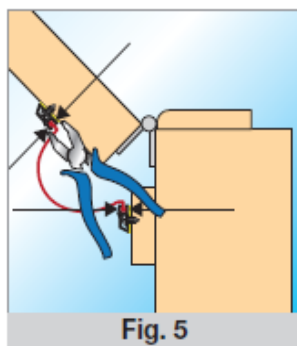

Fig. 5
- 5 Crimp bottom end of rigid socket with pliers prior to fitting - can be done post fit with hammer and centre punch (see fig 5)